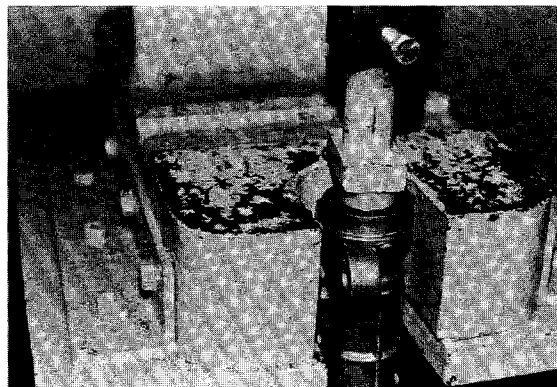

Figure 12-14
1. Reinstall bushing (7) if it was removed. Press in evenly (Figure 12-14). Reinstall snap ring (8).